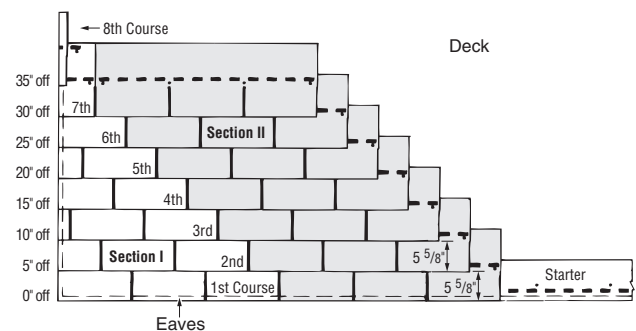

Figure 10-15: Eight-Course, Five-Inch, Stepped-Off Diagonal Method.
3. Continue with full-length starter-course shingles along the eaves. (Figure 10-15).
1. Begin the second course by cutting 5" off the left end of a shingle and applying the 34³/₈" piece over the first-course shingle, flush with the left edge of the first-course shingle, and exposing the first course 5⁵/₈" (Figure 10-15).
- Install "Section II" as shown in *Figure 10-15* using full shingles against the eighth courses in "Section I." This must be done before continuing with course nine. These "Section II" shingles are to be butted-up against the "Section I" shingles.